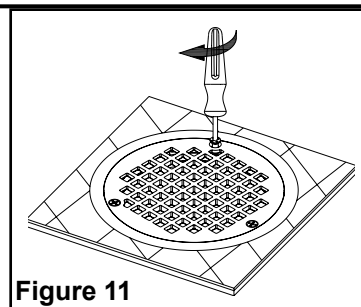

Figure 11
Step 24 – Place strainer back into frame, reinstall screws and tighten to 20-25in-lbs [2.3-2.8 N-m]. See **Figure 11**.